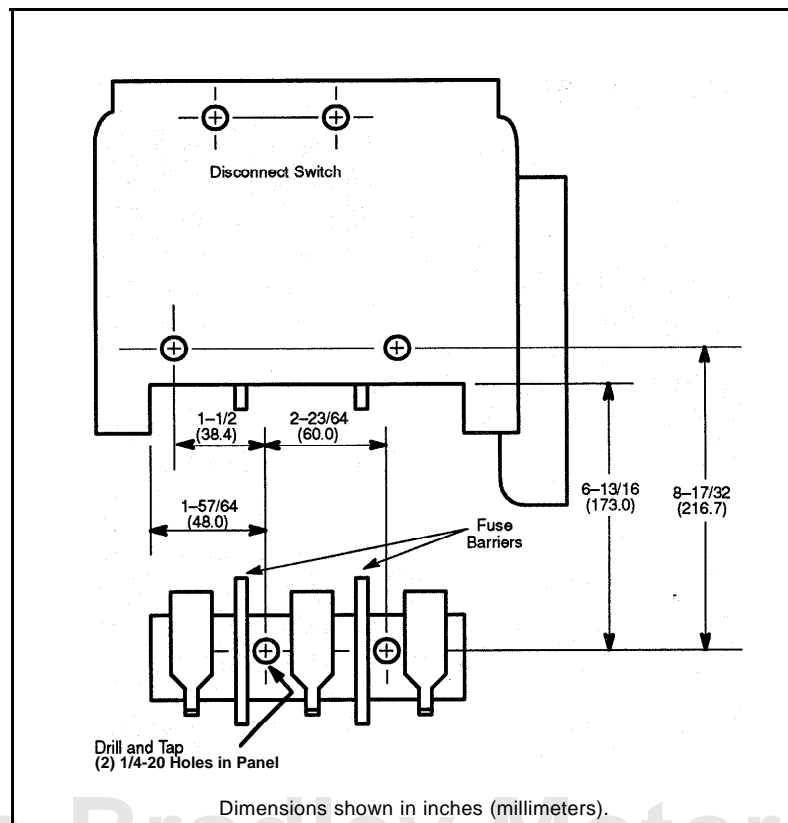

Figure 1
1. Drill and tap the two mounting holes as required per Figure 1 on Page 1 and the fuse block kit chart. When the disconnect switch is not mounted, use the 1-1/2" (38.4) and 8-17/32" (216.7) dimensions from the lower left hand disconnect switch mounting holes as shown in Figure 1 on Page 1. When the disconnect switch is already mounted, use the 1-57/64" (48.0) and 6-13/16" (173.0) dimensions from the surfaces of the disconnect switch as shown in Figure 1 on Page 1.